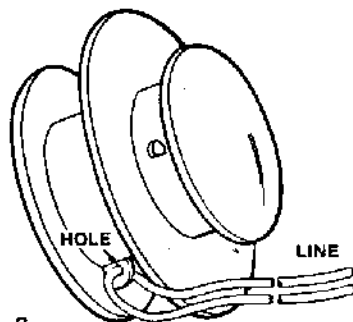

FIG. 3
1. Thread end of line through hole on spool (Fig. 3), and pull through until line is the same length on both sides of hole.